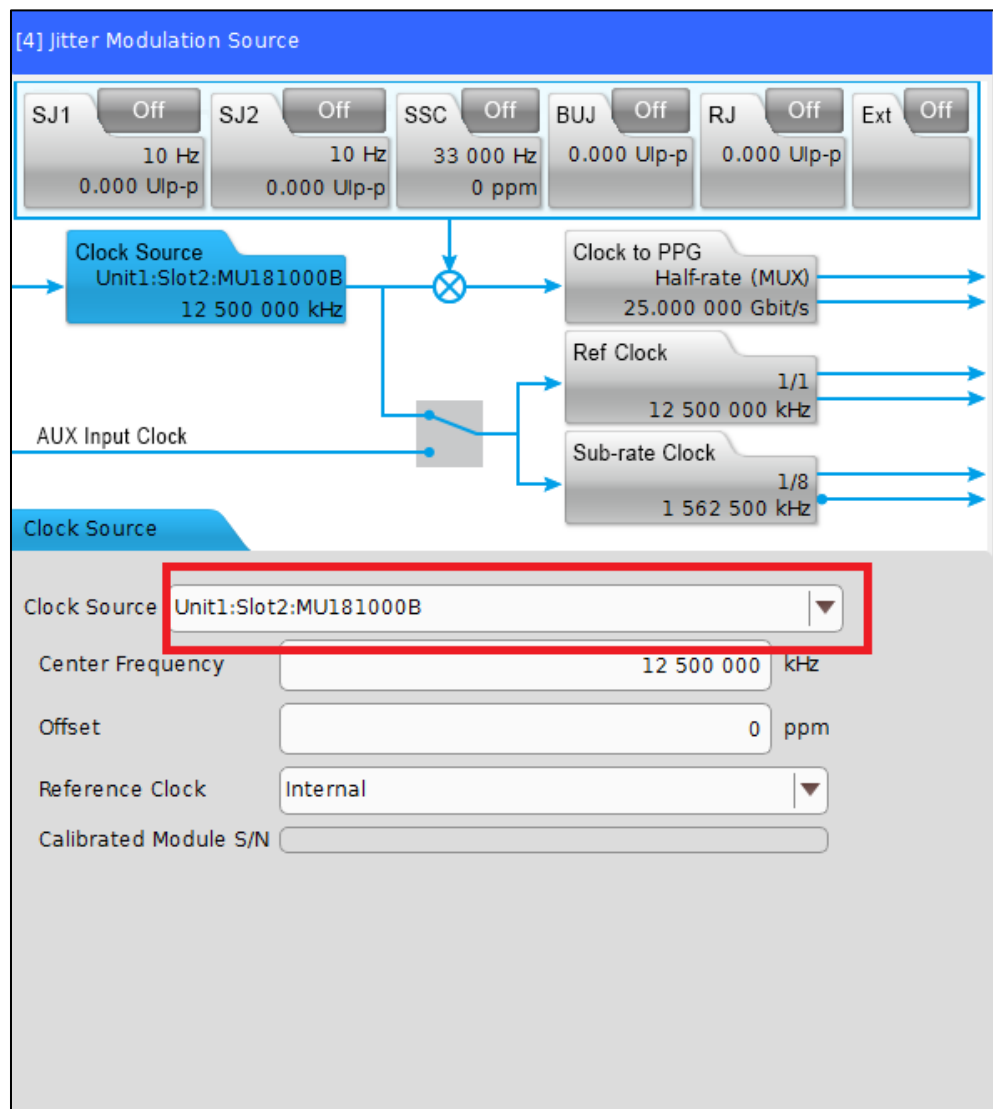

FIGURE 46. JITTER CLOCK SOURCE SETTING
- b) Go to Jitter tab and set Clock Source to “Unit1:Slot2:MU181000B”. See Figure 46.